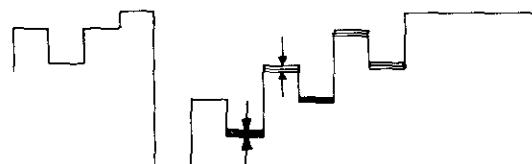

Figure 4-2 L502 Alignment
- 5) Adjust L502 to obtain a minimum fluctuation as shown in figure 4-2 after changing PATTERN into the COLOUR BAR singal.